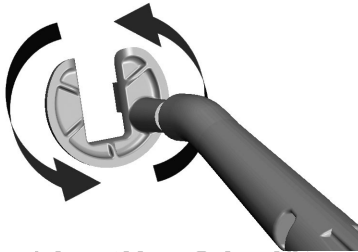

Figure 18. Rotational Direction for the Horseshoe End
4. Rotate the horseshoe end of the Placement/Removal Tool so that the tool is oriented as desired (Figure 18).